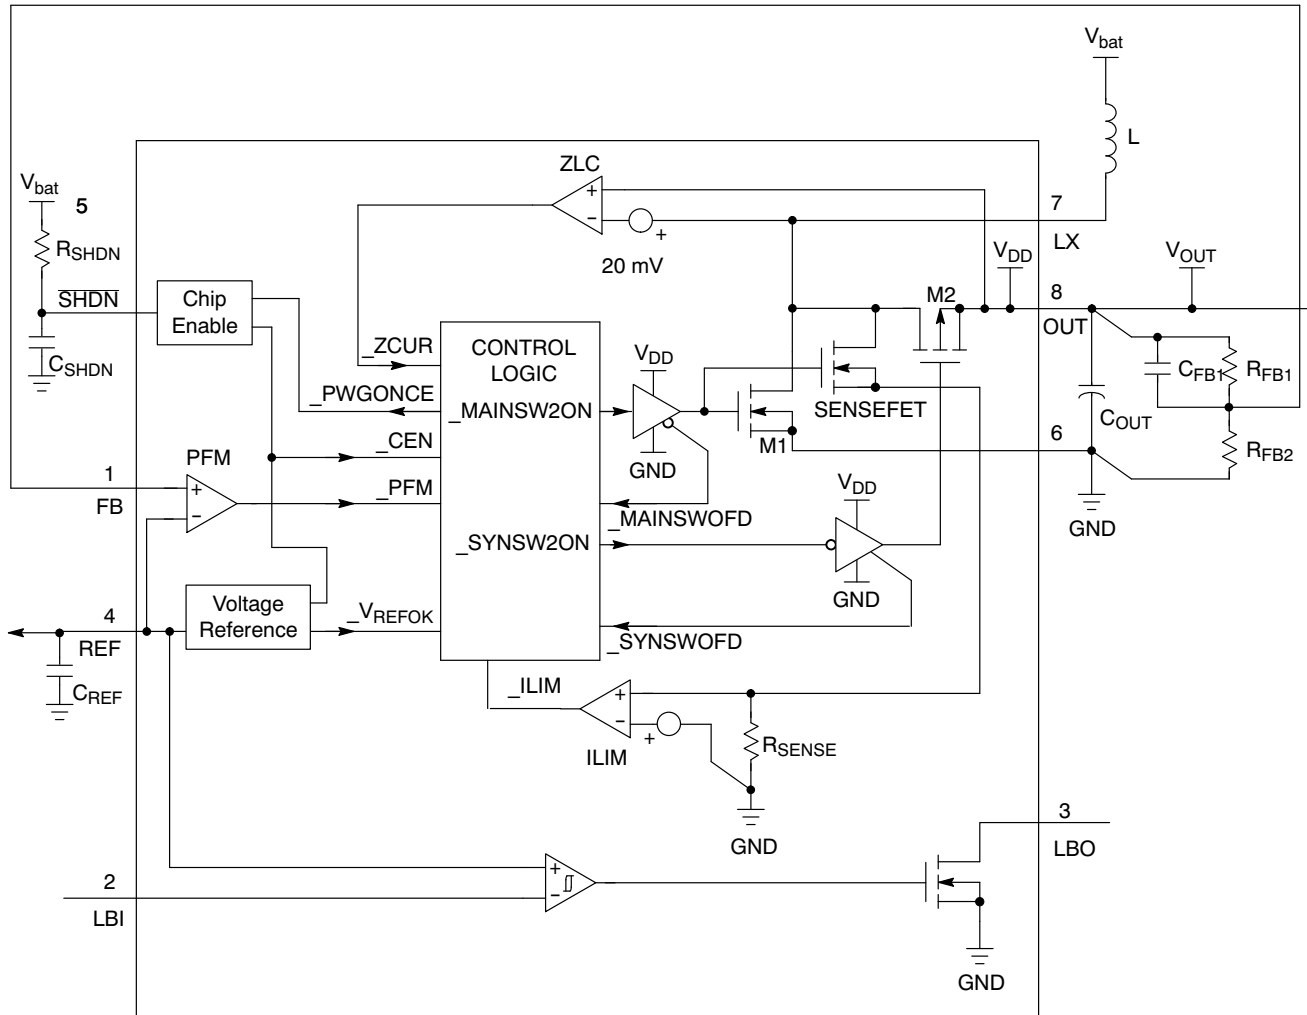

Figure 2. Simplified Functional Diagram
From the simplified Functional Diagram (Figure 2), the output voltage is divided down and fed back to pin 1 (FB). This voltage goes to the non-inverting input of the PFM comparator whereas the comparator's inverting input is connected to REF. A switching cycle is initiated by the falling edge of the comparator, at the moment, the main switch (M1) is turned ON. After the maximum ON-time (typical 1.4  $\mu$ S) elapses or the current limit is reached, M1 is turned OFF, and the synchronous switch (M2) is turned ON. The M1 OFF time is not less than the minimum OFF-time (typical 0.31  $\mu$ S), this is to ensure energy transfer from the inductor to the output capacitor. If the regulator is operating at continuous conduction mode (CCM), M2 is turned OFF just before M1 is supposed to be ON again. If the regulator is operating at discontinuous conduction mode (DCM), which means the coil current will decrease to zero before the next cycle, M1 is turned OFF as the coil current is almost reaching zero. The comparator (ZLC) with fixed offset is dedicated to sense the voltage drop across M2 as it is conducting, when the voltage drop is below the offset, the ZLC comparator output goes HIGH, and M2 is turned OFF. Negative feedback of closed loop operation regulates voltage at pin 1 (FB) equal to the internal voltage reference (1.190 V).
From Figure 2, SENSEFET is applied to sample the coil current as M1 is ON. With that sample current flowing through a sense resistor, sense-voltage is developed. Threshold detector (ILIM) detects whether the sense-voltage is higher than preset level. If it happens, detector output signifies the CONTROL LOGIC to switch OFF M1, and M1 can only be switched ON as next cycle starts after the minimum OFF-time (typical 0.31  $\mu$ S). With properly sizing of SENSEFET and sense resistor, the peak coil current limit is set at 1.0 A typically.
The IC is shutdown when the voltage at pin 5 ( $\overline{\text{SHDN}}$ ) is pulled lower than 0.3 V. During shutdown, M1 and M2 are both switched OFF, however, the body diode of M2 allows current flow from battery to the output, the IC internal circuit will consume less than 0.05  $\mu$ A current typically. If the pin 5 voltage is pull higher than 0.6 V, for example, by a resistor connected to VIN, the IC is enabled, and the internal circuit will only consume 9.0  $\mu$ A current typically from the OUT pin. Refer to Figure 2, the product of  $R_{SHDN}$  and  $C_{SHDN}$  must be larger than (500 k  $\cdot$  56 nF, i.e. 28 msec). This is to provide reset pulse for startup as battery is plugged in.